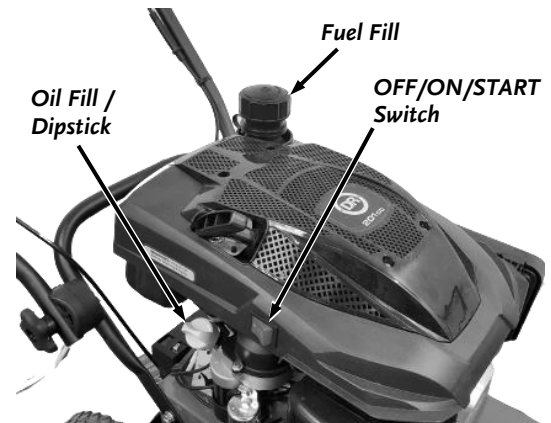

Figure 13A
1. Check the oil level every time you use the DR TRIMMER/MOWER (**Figure 13A**).
1. Push and Hold the OFF/ON/START Switch in the START position until the Engine starts, then release. The Switch will snap back to the ON position and the Engine will continue to run (**Figure 13A**).
1. Switch the Switch to the “OFF” Position (**Figure 13A and 13B**).